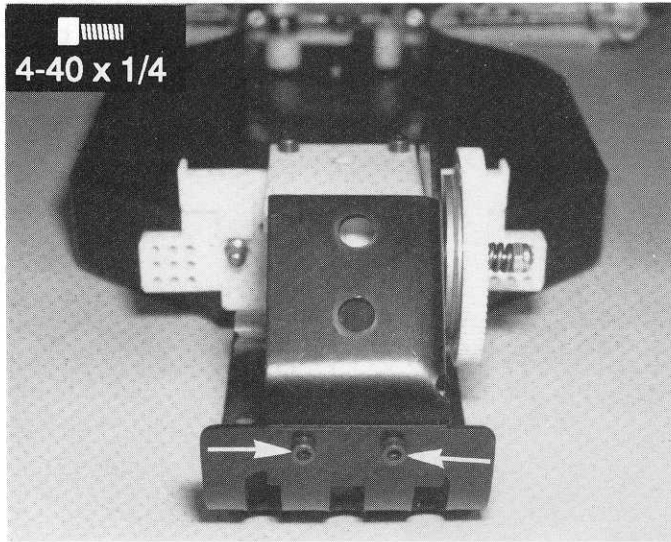

Fig. 84
□ **Fig. 84** From Bag 7-4 install and tighten the two 4/40 x 1/4" SHCS screws in the rear of the chassis and the motor plate, as shown.